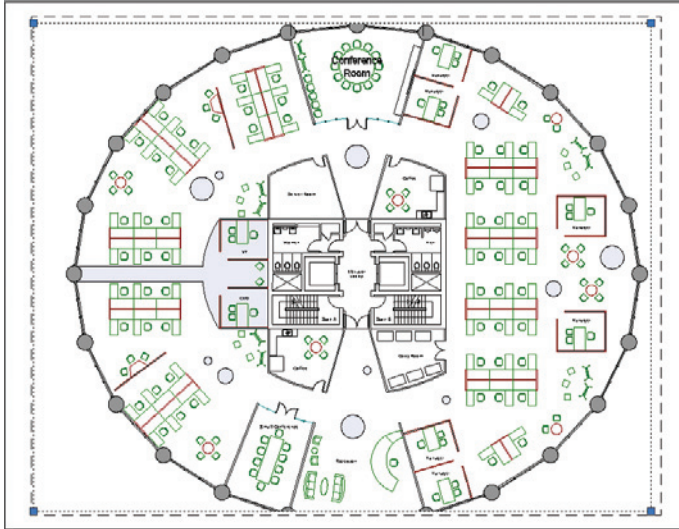

FIGURE 13.15 Adjusting the viewport in an attempt to display the entire floor plan at $1/16"$ scale (or 1:200 in metric)
6. Viewport frames exist in paperspace only. Click the single viewport frame to select it. Select the upper-right grip and move it upward and to the right until it is close to the upper-right corner of the paper but inside the plot device limits. Click the lower-left grip, and move it to the lower-left corner inside the device limits (see Figure 13.15). Press Esc to deselect the viewport.